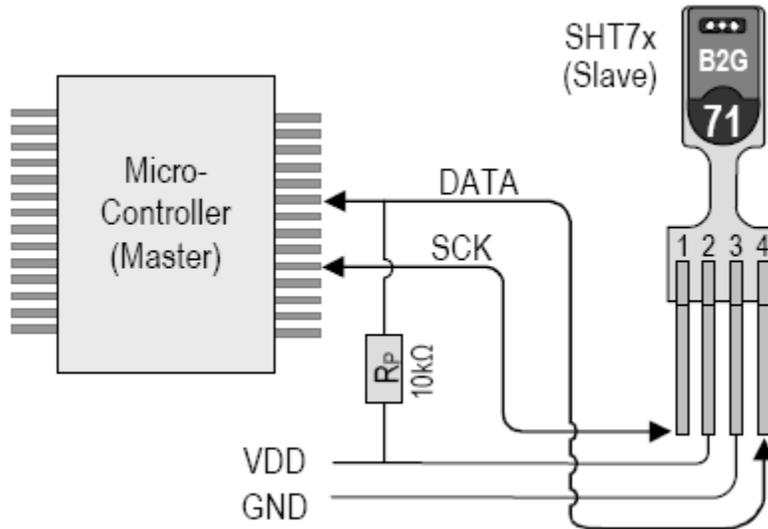

Figure 1: Typical Application Circuit using SHT75 sensor
- (c) In Figure 1, the SHT75 sensor can be connected to an I2C bus without interference with other devices connected to the bus. By using microcontroller suggest how to read data from the SHT75 sensor.